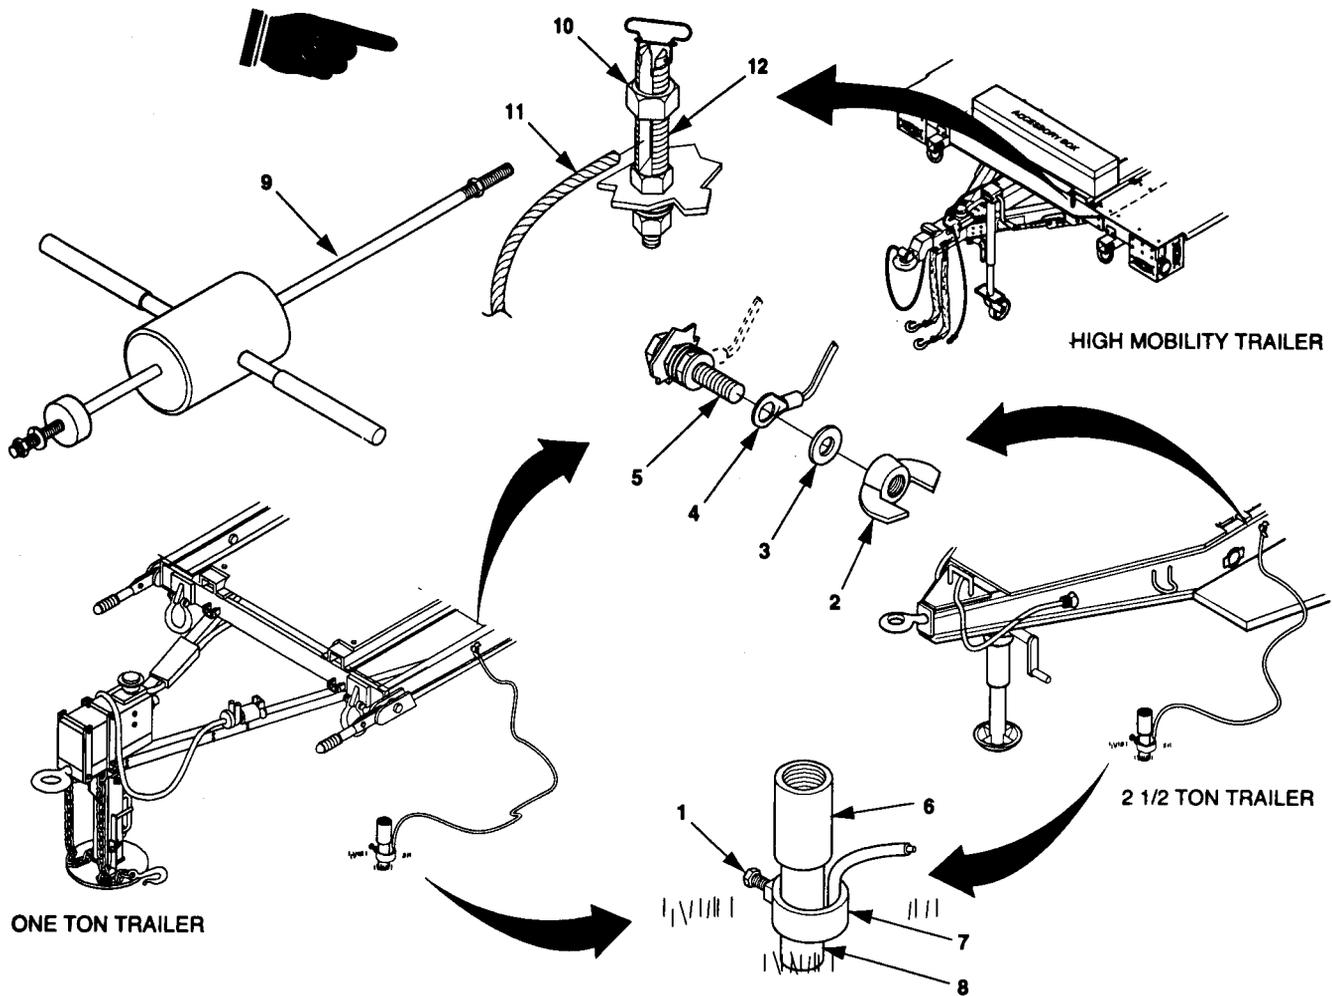

Figure 2-19. Ground Rod Removal.
- (1) Loosen clamp screw (1, figure 2-19) and remove ground cable.
- (2) If disconnecting ground cable from high mobility trailer (PU-801A), perform steps (5) through (17). For other trailers, perform steps (3) and (4) and then steps (7) through (17).
- (3) Remove wing nut (2), washer (3), and terminal (4) from ground stud (5). Roll up ground cable and store in accessory box.
- (4) Install washer (3) and wing nut (2) removed in step a.(2) on ground stud (5).
- (5) Loosen nut (10) on ground terminal (12) and remove ground cable (11) going to ground rod (8).
- (6) Tighten nut (10) making sure that ground cable going to generator is still installed in slot of ground terminal (12).
- (7) Remove ground rod coupler (6) and ground cable clamp (7) from ground rod section (8).
- (8) Install ground rod coupler (6) on ground rod section (8).